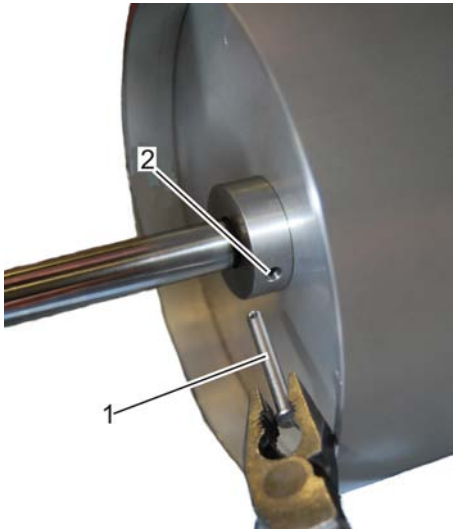

Fig. 77: Inserting the socket pin
- 19.** ▶ Insert socket pin (Fig. 77/1) into piston mount (Fig. 77/2) and secure with cotter pin.